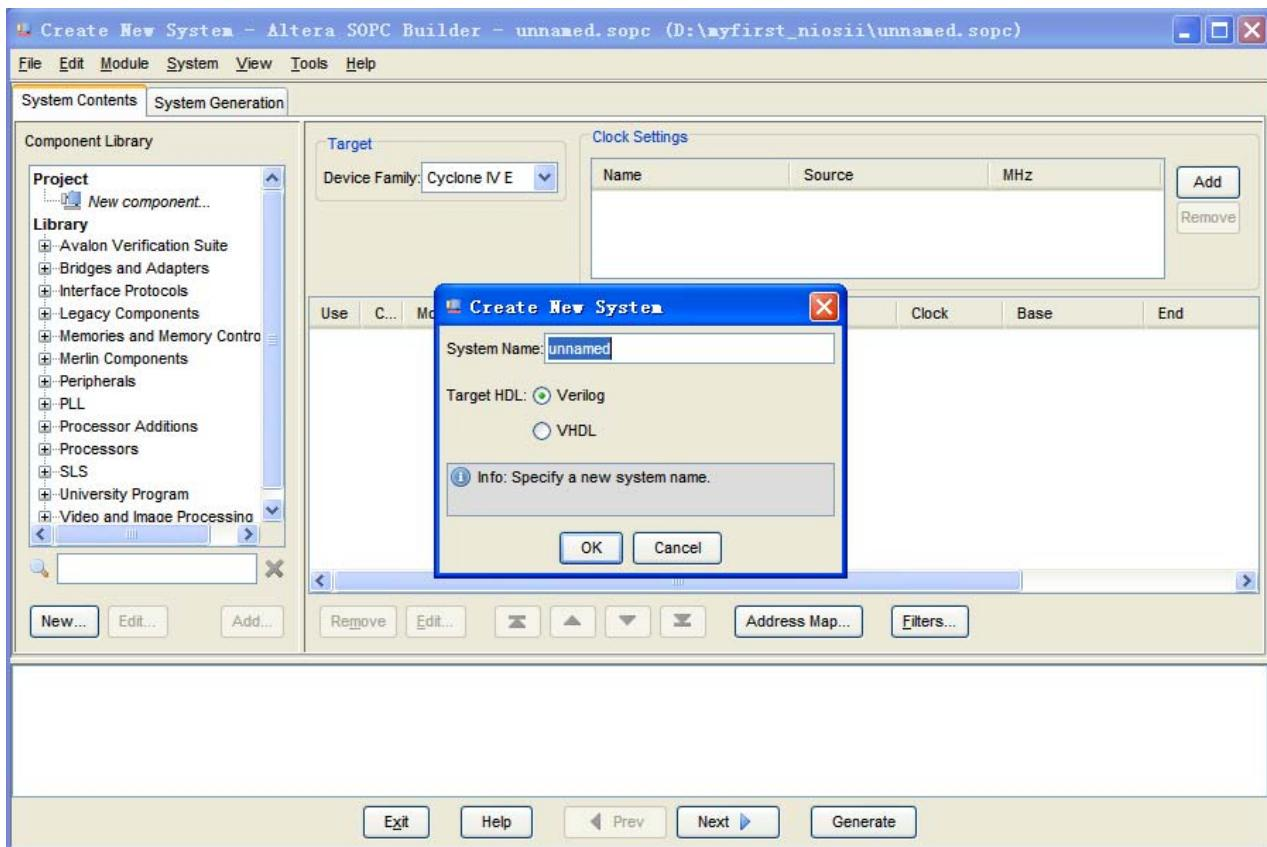
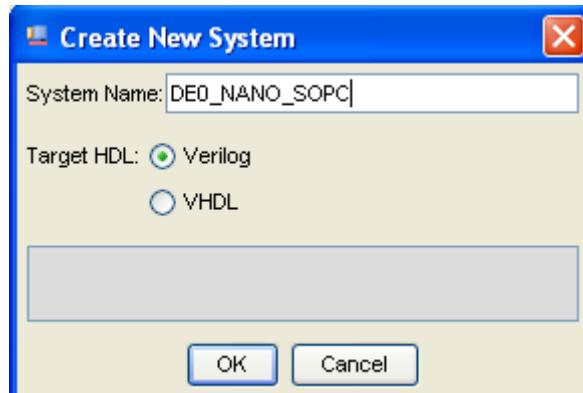
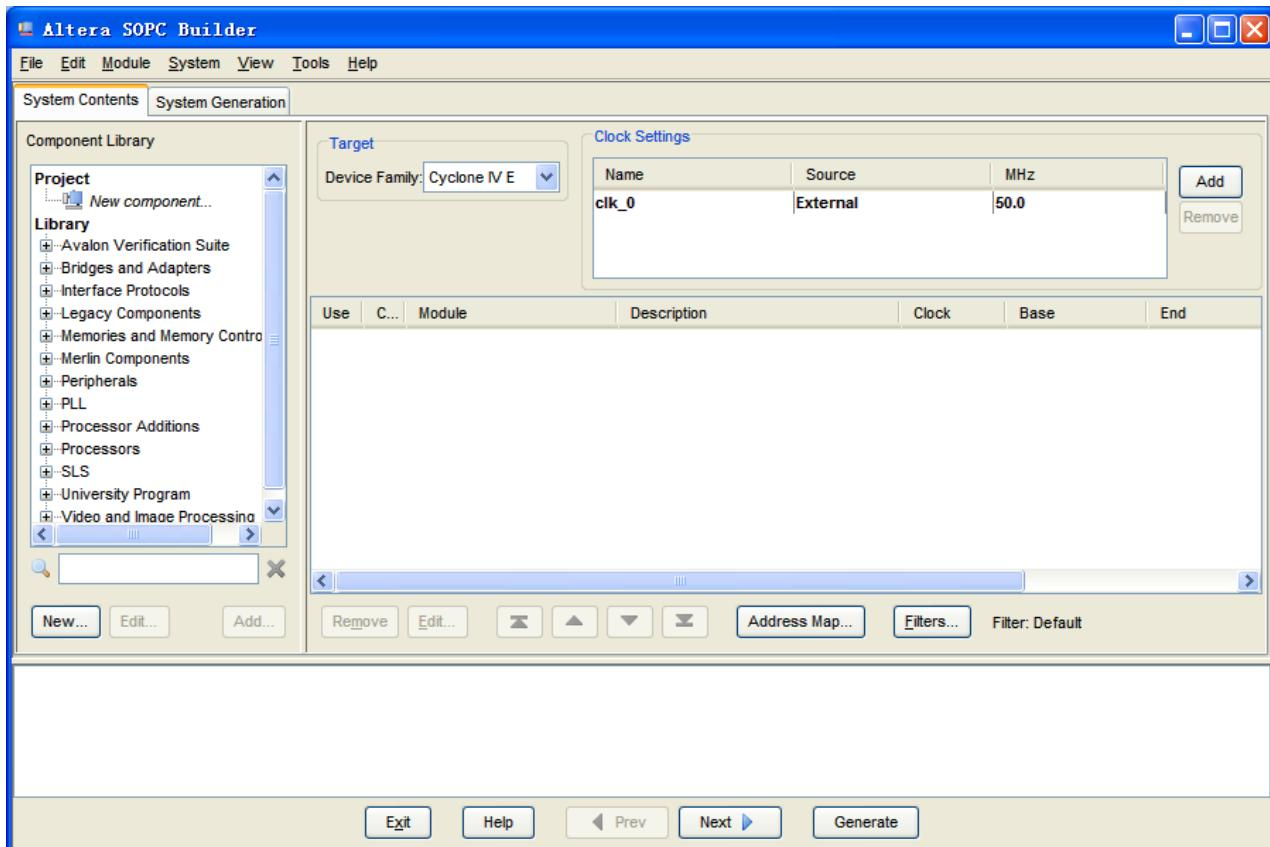

Figure 7-10 Create New SOPC System [0]
Figure 7-11 Create New System [1]
Figure 7-12 Create New System[2]
6. Rename System Name as shown in Figure 7-10 and Figure 7-11. Click **OK** and you will see a window as shown in Figure 7-12.